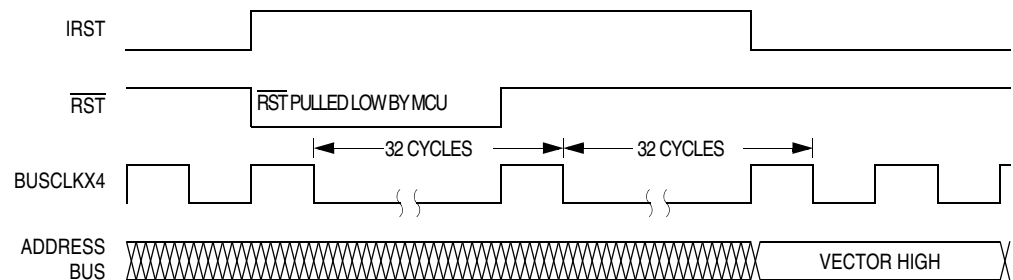
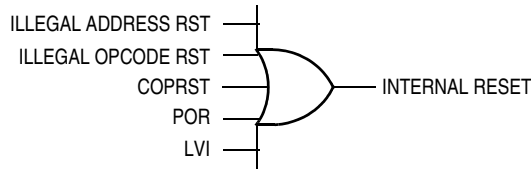

Figure 14-5. Internal Reset Timing
Figure 14-6. Sources of Internal Reset
All internal reset sources actively pull the  $\overline{RST}$  pin low for 32 BUSCLKX4 cycles to allow resetting of external peripherals. The internal reset signal IRST continues to be asserted for an additional 32 cycles (see **Figure 14-5**). An internal reset can be caused by an illegal address, illegal opcode, COP time out, LVI, or POR (see **Figure 14-6**).
**NOTE:** For POR and LVI resets, the SIM cycles through 4096 BUSCLKX4 cycles during which the SIM forces the  $\overline{RST}$  pin low. The internal reset signal then follows the sequence from the falling edge of  $\overline{RST}$  shown in **Figure 14-5**.